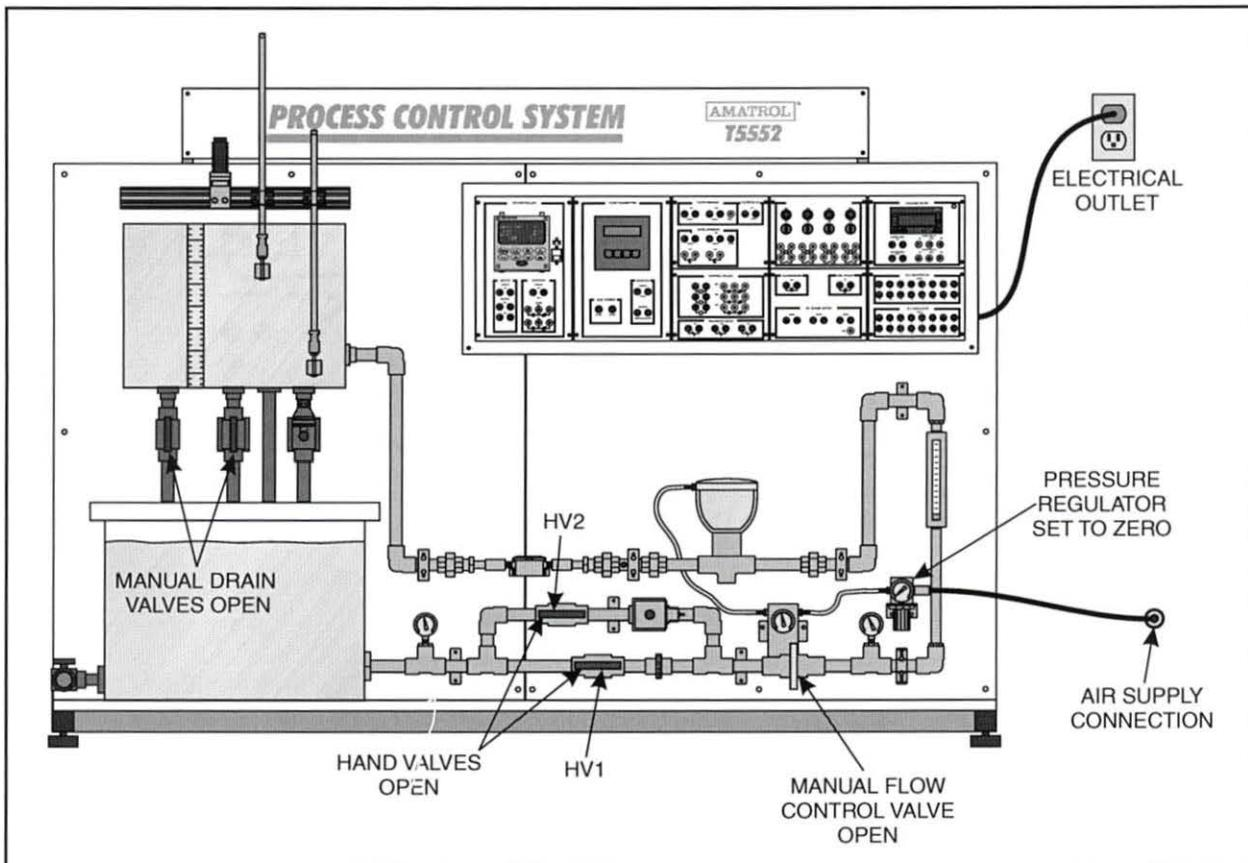

Figure 38. T5552 Setup
- 2. Perform the following substeps to set up the T5552, as shown in figure 38.